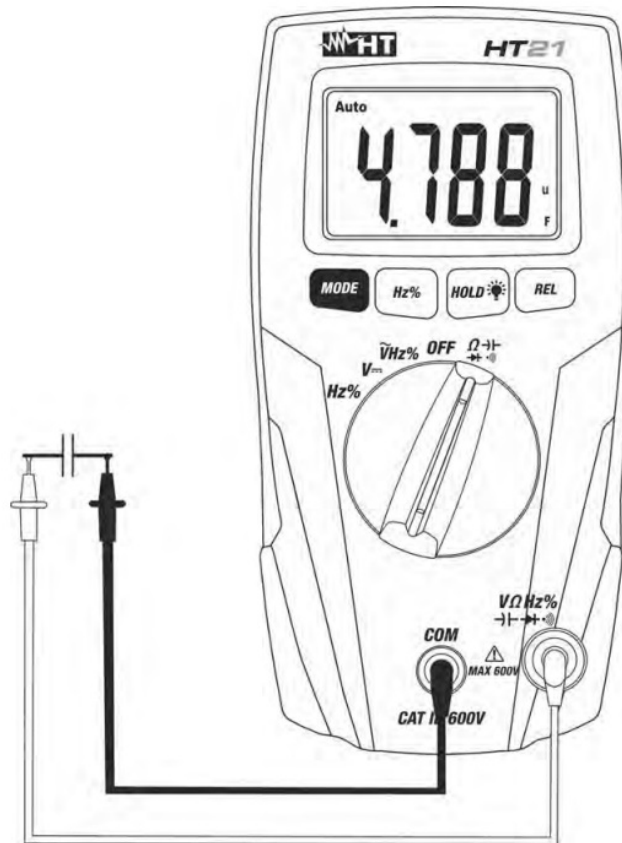

Fig. 7: Using the instrument for Capacitance measurement
5. Connect the red and black test clamps to the capacitor terminals respecting if necessary the proper polarities (see Fig. 7). The capacitance value is shown on display